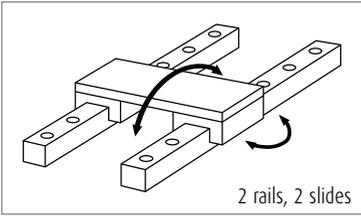
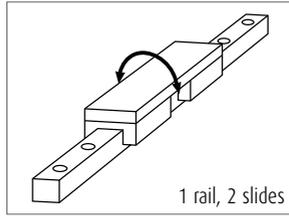
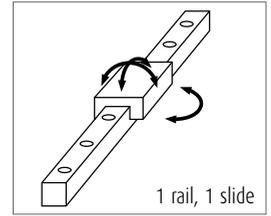

Fig. 3.6 Pitching and yawing direction
Fig. 3.7 Rolling direction
Fig. 3.8 All directions
- › However, in cases as shown in **Fig. 3.6**, **Fig. 3.7** and **Fig. 3.8**, it is necessary to take into account the moment rigidity in addition to the radial rigidity.